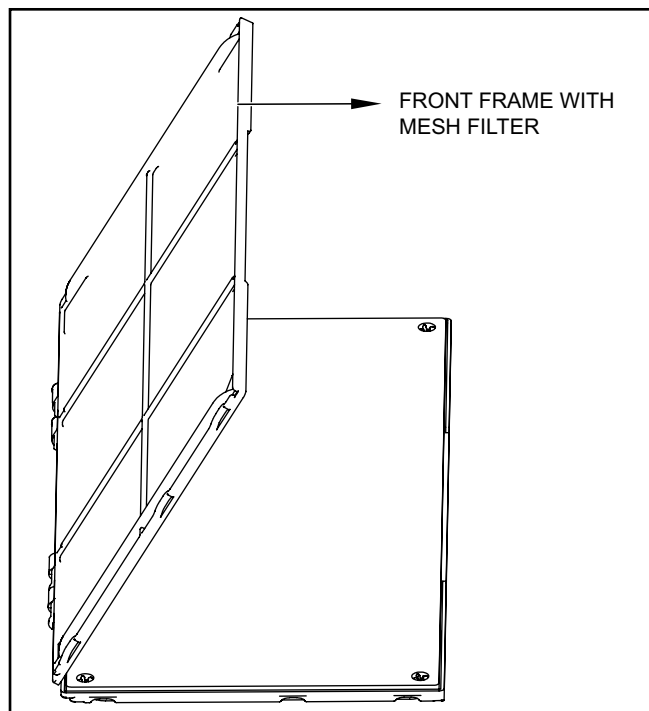

Figure 405
3. Swing the front frame open. See Figure 405. Clean the front frame by washing the dirt from the filter. Use a mild soap solution if necessary. Allow filter to dry.
2. Hold the filter at the top and slide the grip out as shown on Figure 405.